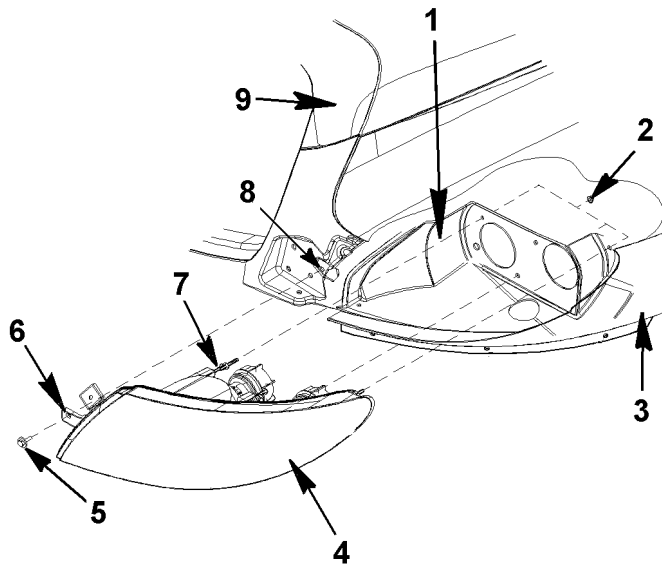

Figure 100 Headlight Assembly Remove and Install (Driver Side Shown)
1. Insert the headlight assembly (Figure 100, Item 4) into the headlight housing opening (Figure 100, Item 1), aligning the mounting studs with the mounting holes in the headlight housing.
6. Insert the headlight assembly mounting bolt (Figure 100, Item 5) into the headlight mounting tab (Item 6) and headlight assembly bolt hole (Item 8).